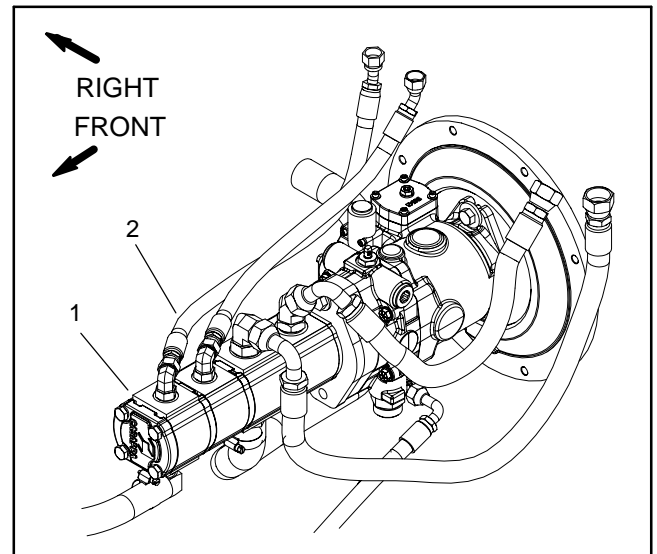

Figure 55
4. Thoroughly clean junction of hydraulic hose and fitting in gear pump section P4 (Fig. 55). Disconnect hydraulic hose from fitting.